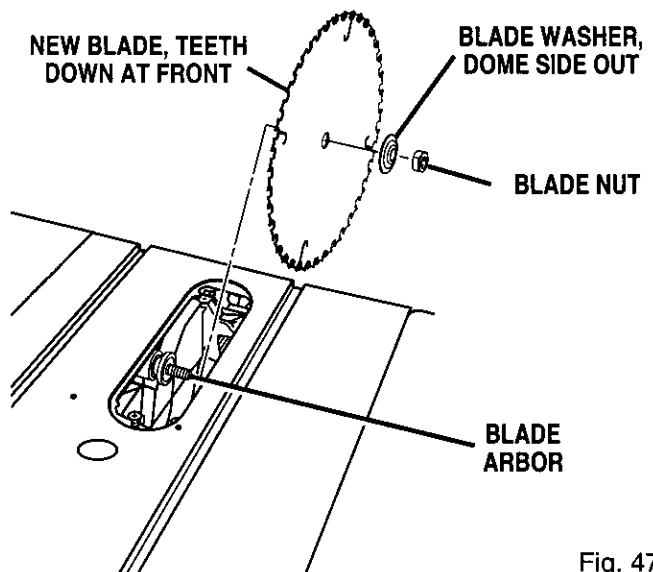

Fig. 47
- To install a standard blade, place the new blade on the arbor shaft, with teeth pointing down toward the front of the saw. See Figure 47.